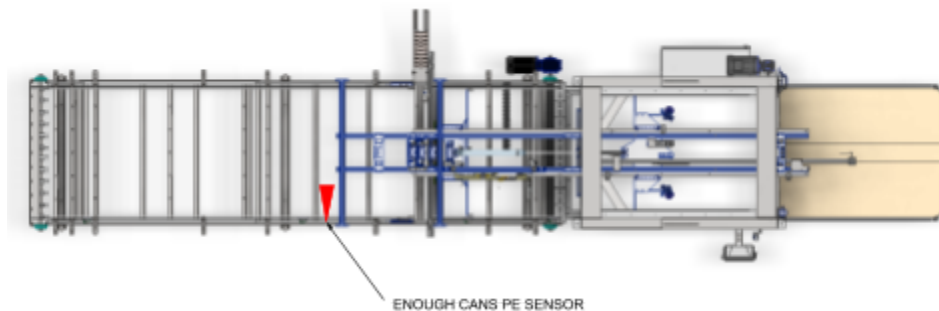

Fig. 16: Enough Cans PE Sensor
6. As cans accumulate, they will eventually reach the Enough Cans Photo Eye (Fig. 16), which is typically set so that approximately two layers of cans are accumulated on the Conveyor. See Step 5 if sensor adjustment is required to sense cans in front of the sensor.